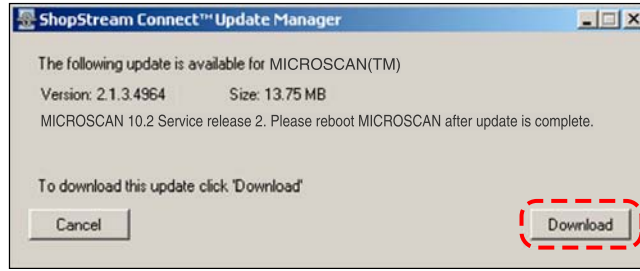

Figure B-13 Sample update available screen
- b. If an update is available, a screen similar to Figure B-13 displays. Select **Download** to begin the update process and continue to Step 6.